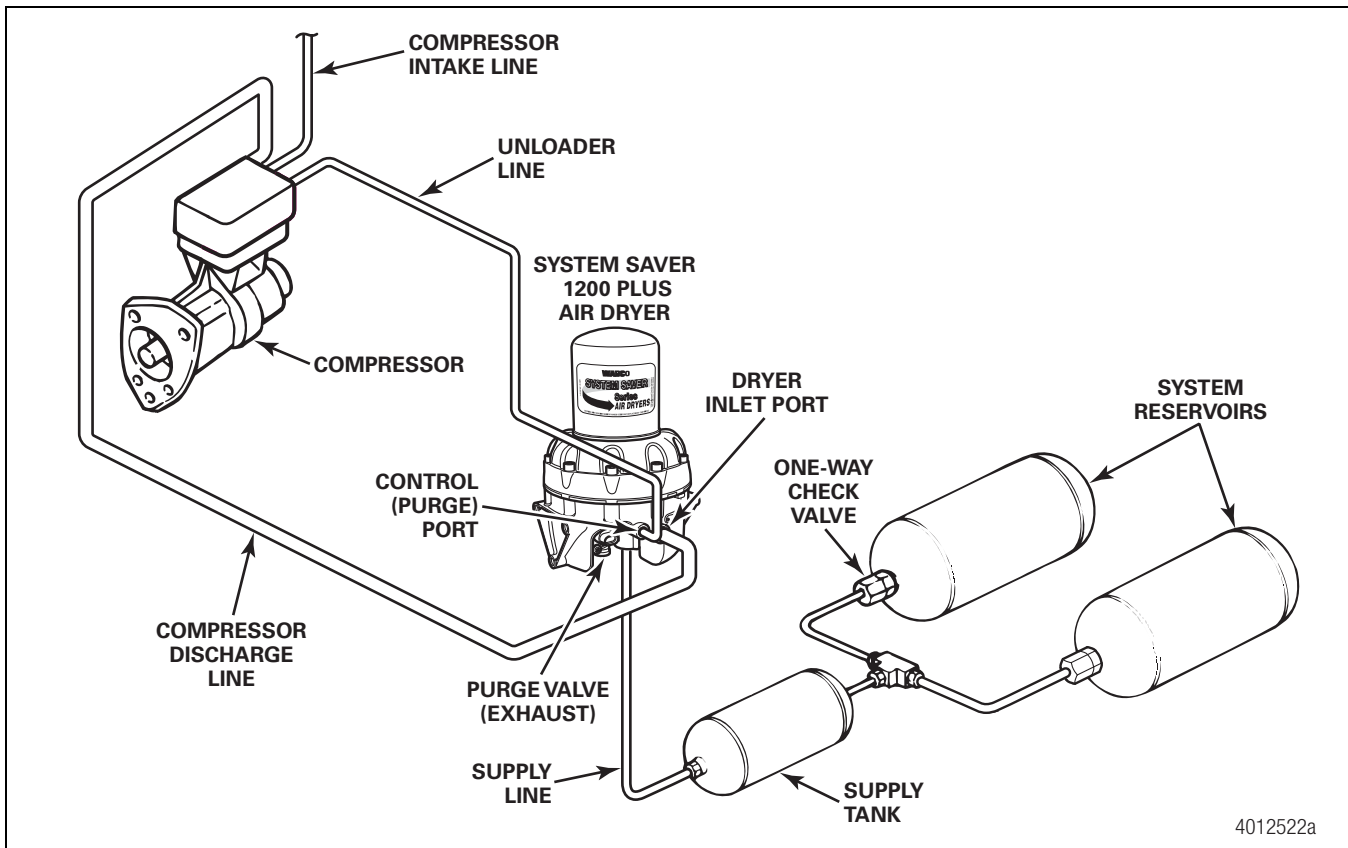

Figure 1
- When air is compressed, the compressor takes in water vapor with the air, compresses the water vapor and puts it into the system as liquid water. Figure 1.